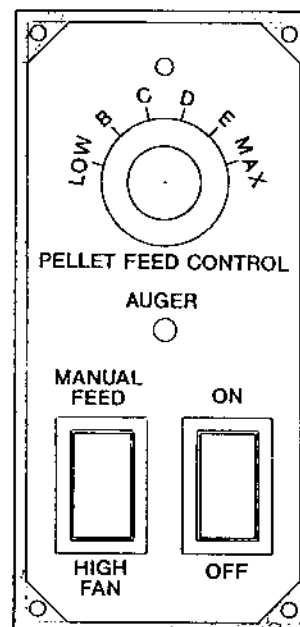

FIGURE 8
- Fill burn pot half full by hand or by pressing "MANUAL FEED" switch on control panel, (See Figure 8). Add approved fire starter (see 3.91), light and close door. Keep door tightly closed during operation.